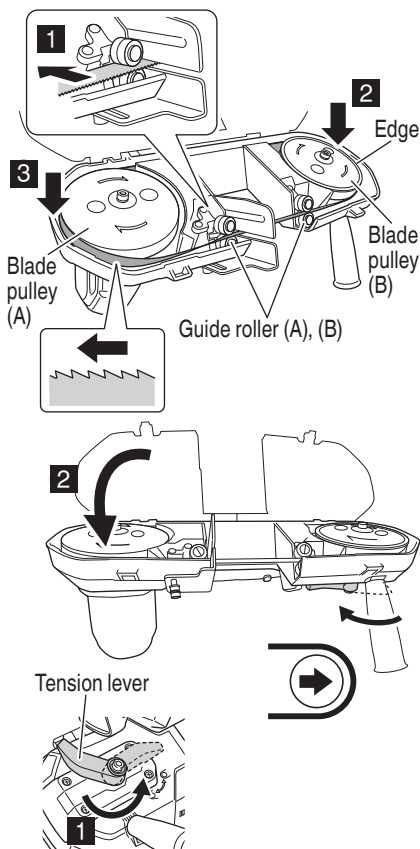

Fig. 13
**How to install (Fig. 13)**
(See Fig. 13 for band saw blade installation)